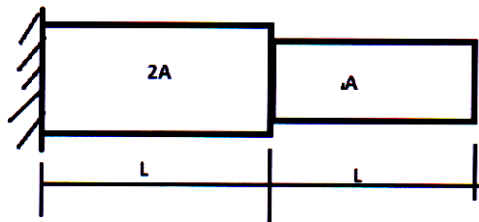

Figure 5
18. Find the natural frequencies of longitudinal vibrations of the same stepped shaft of area A and $2A$ of equal length(L), as shown in figure 5. Use Lumped mass matrix.